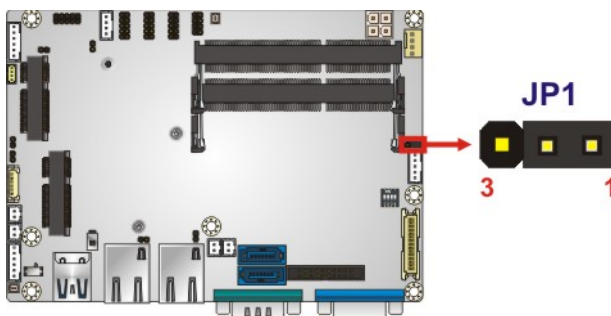

Figure 4-16: LVDS Voltage Selection Jumper Location
- Jumper Location:** See Figure 4-16